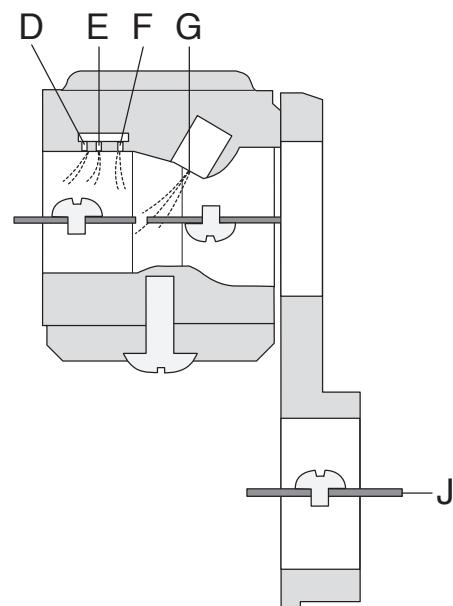

Fig. 7
In full throttle mode (fig. 7) all valves are open and fuel is supplied through all diffuser jets (D, E, F and G). Extra air inlet (J) is also fully opened.